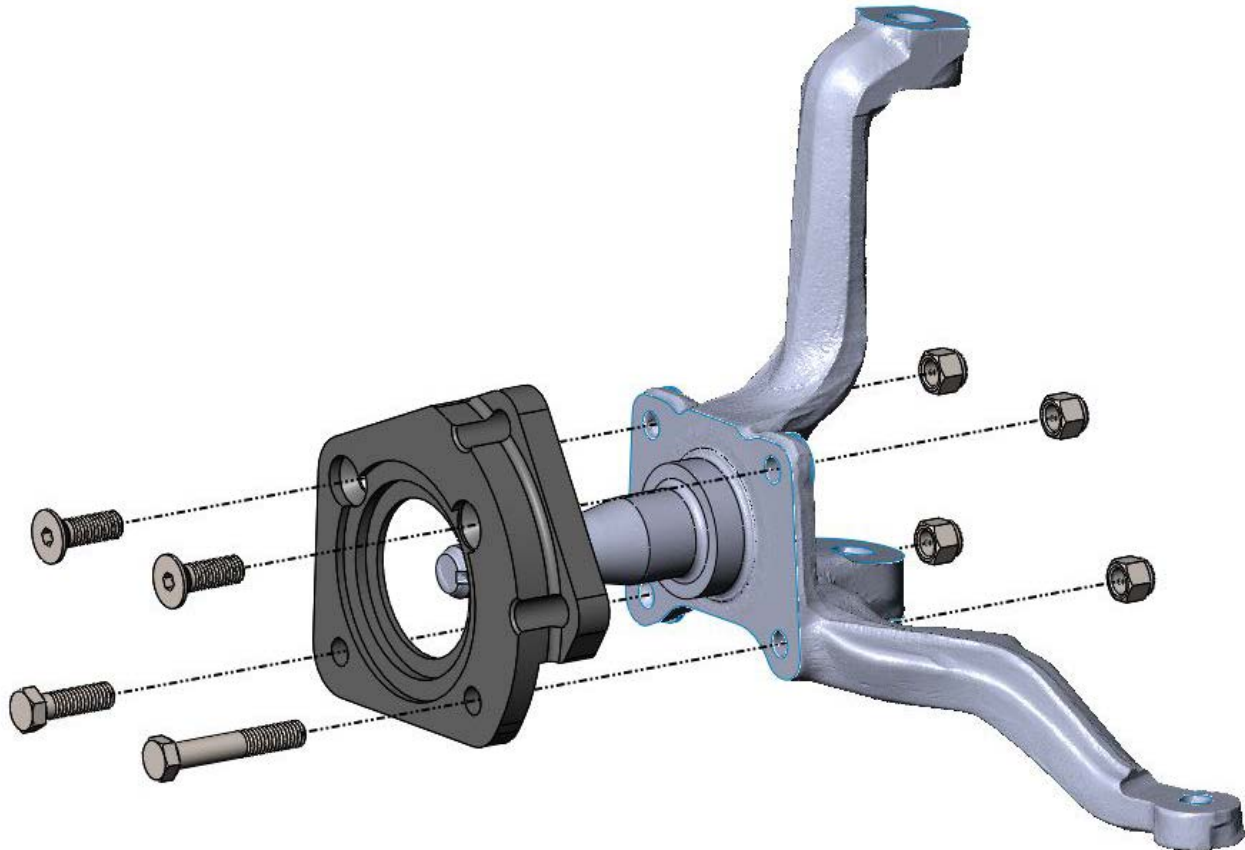

Figure 2 – Primary Caliper Bracket Installation (Driver Side Shown)
5. Install the primary caliper mounting bracket on the spindle. Position the bracket so the caliper will attach on the “trailing” side of the spindle and using two 3/8”-16 x 1 1/4” Countersunk Grade 8 bolts, one 3/8”-16 x 1 1/4” Grade 8 Hex Head Bolt, and one 3/8”-16 x 2 1/4” Grade 8 Hex Head Bolt along with four 3/8”-16 Nyloc Nuts, torque the bolts to 35 ft/lbs. **NOTE:** The brackets are driver side (p/n: 6610128) and passenger (p/n: 6620128) side specific. See Figure 2 below for reference.